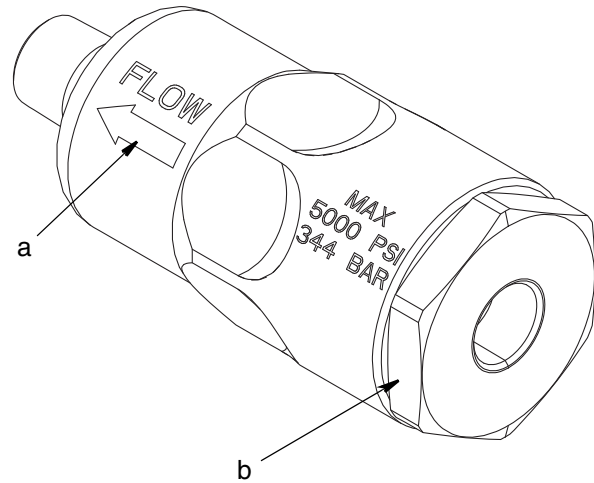

FIG. 1
Install filter with flow arrow (a) pointing in the direction the grease flows through the system as shown in FIG. 1.
3. Use a wrench to remove nut (b) (FIG. 1).
6. Insert new filter (1) and new o-rings (2 and 3).
7. Replace nut (a) (FIG. 1). Torque to 40 ft. lb \pm 10 ft. lb (54 N.m \pm 13.5 N.m).